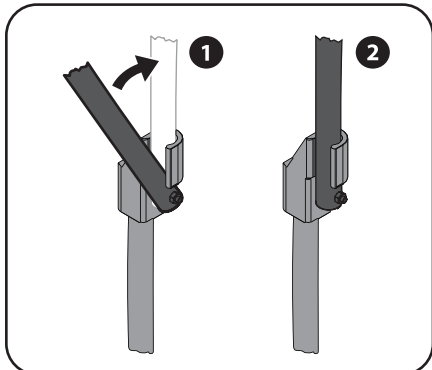

Figure 3-13
3. Rotate the bottom half of the upright supports and lock into place as shown in Figure 3-13.